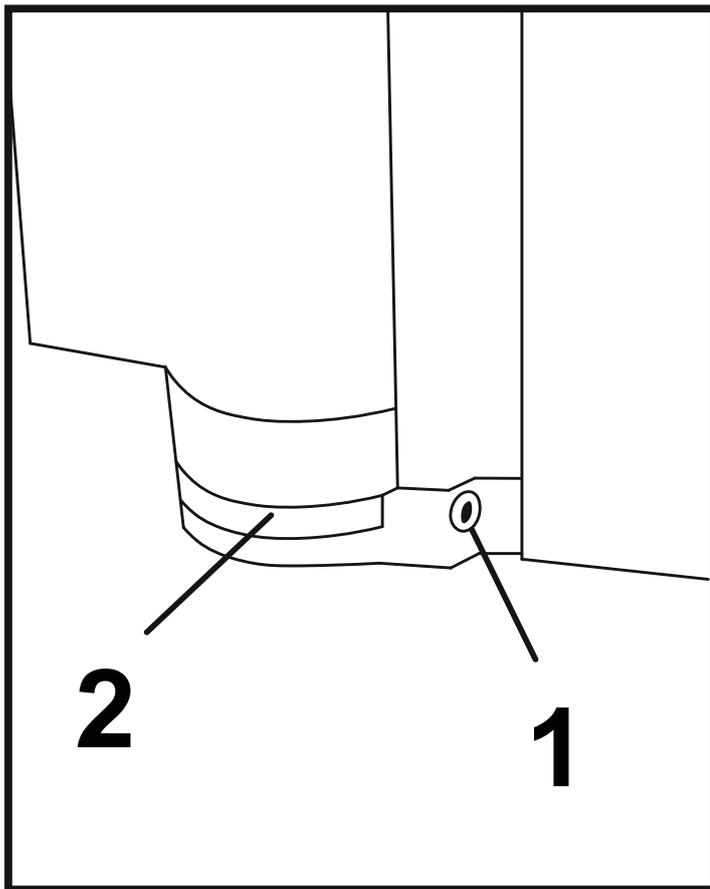

Figure 18
44. To adjust the mono hinges, loosen both mounting screws (1) on the washer by a few turns using the included Allen key. (Figure 18)
45. Move the glass (2) to the desired position where you want to secure the door.
46. Once the glass (2) is in the desired position, tighten the washer mounting screws (1).